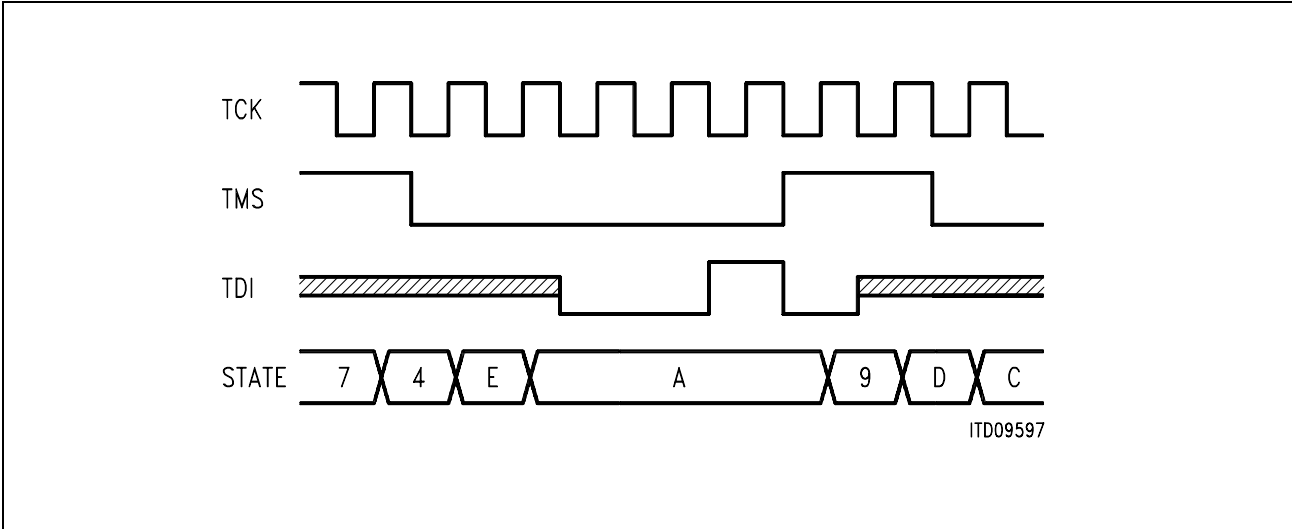

Figure 6
- The instruction TAP_TEST1 is shifted into the TAP controller to start the selftest (see **figure 6**) after 10240 TCK periods: